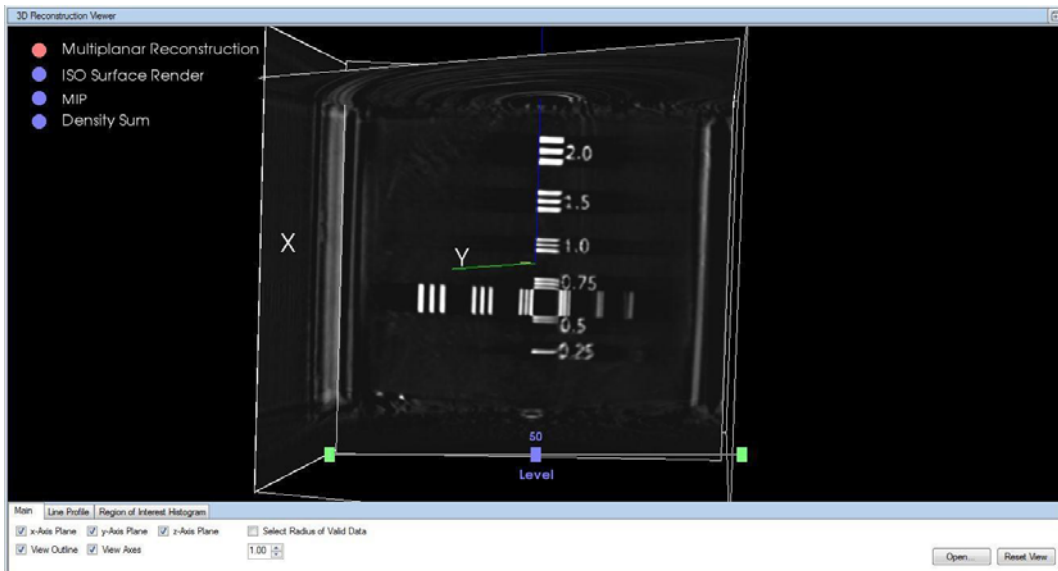
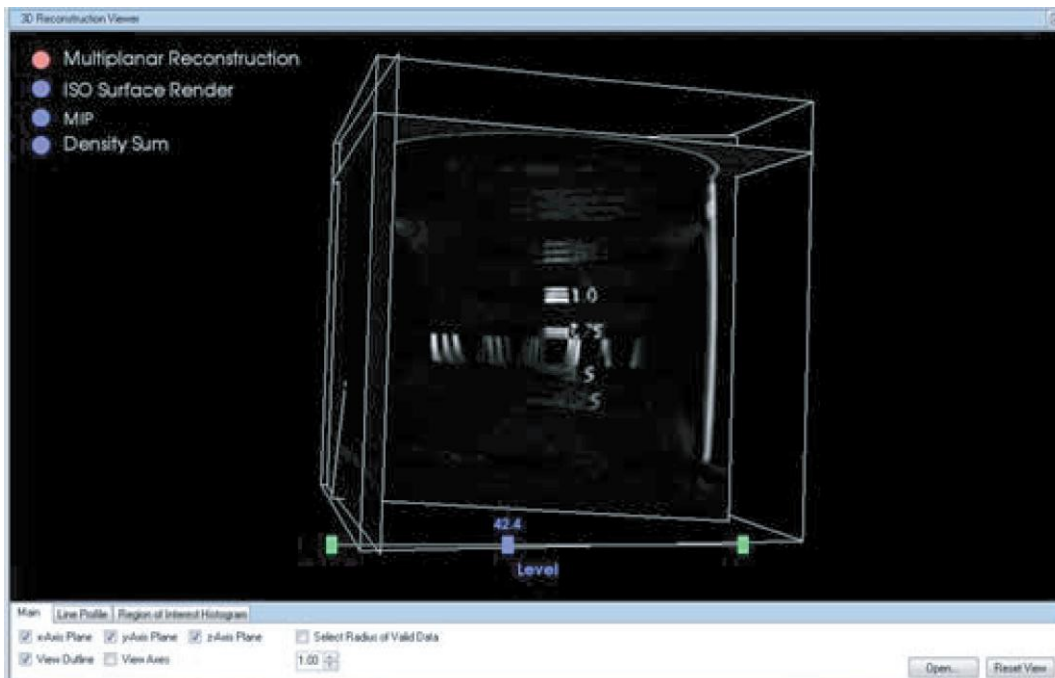

Figure 6: Line Pair pattern properly aligned in 3D image
Figure 7: Gradient appearance on Line Pair pattern due to poorly aligned plane
21. Navigate the 3D image until the entire Line Pair pattern is visible as shown in Figure 6. The Line Pair pattern should not have a 'gradient' appearance as shown in Figure 7. This can be challenging. Use the MIP view (select radio buttons in upper left) to orient the image in the X,Y,Z space, then go back to MPR view with a better idea which viewing planes to drag back and forth.